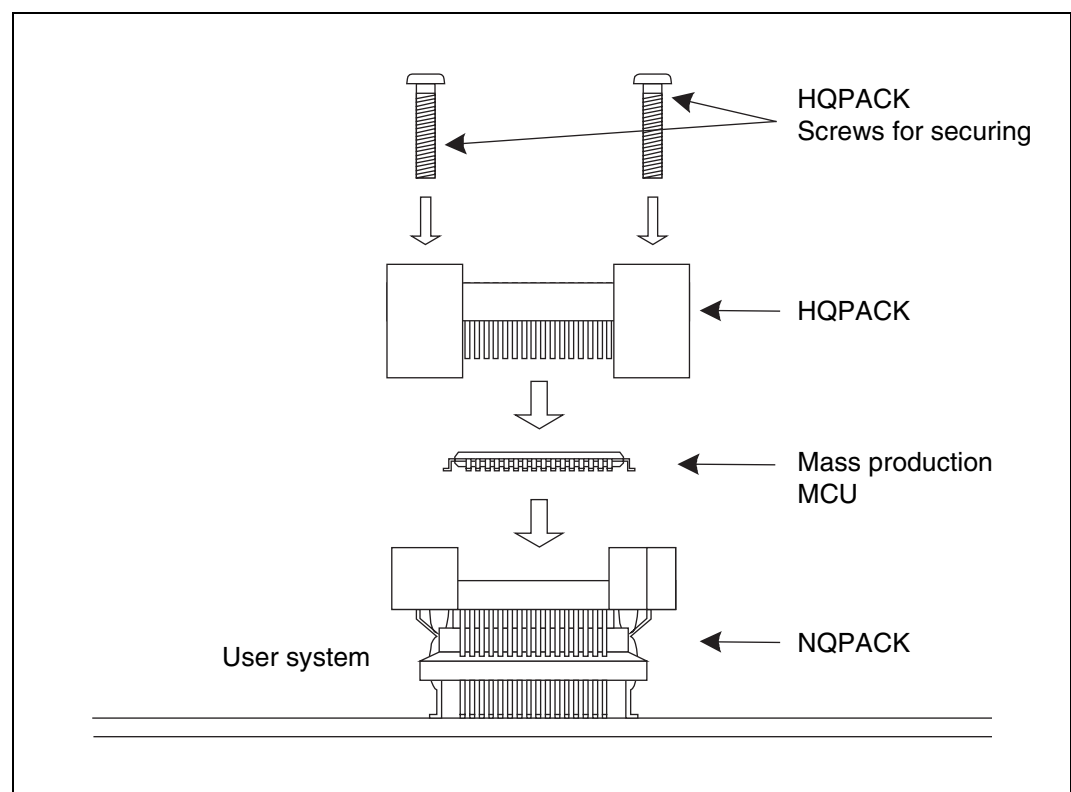

Figure 5 Mounting a mass production MCU
2. Confirm that the mass production MCU is correctly mounted on the NQPACK. Next, insert the HQPACK into the NQPACK (see Figure 5).